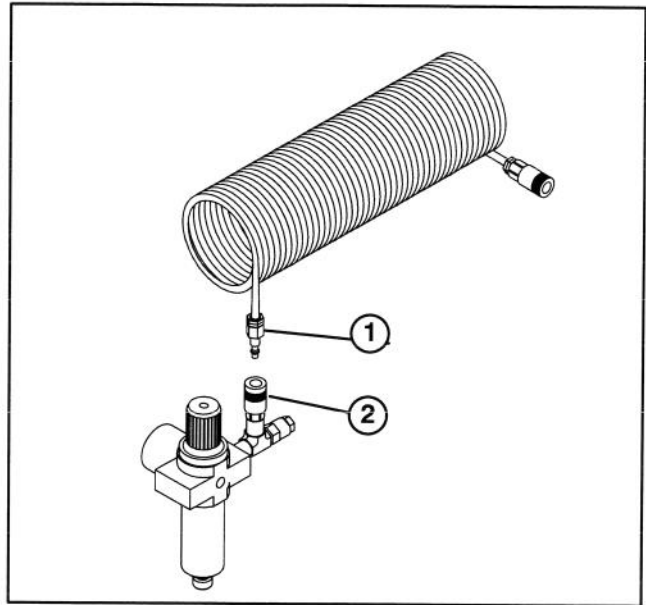

Figure 5
7. Connect air hose at quick coupler (Fig. 5).
8. Connect desired tool to air hose (Fig. 5).